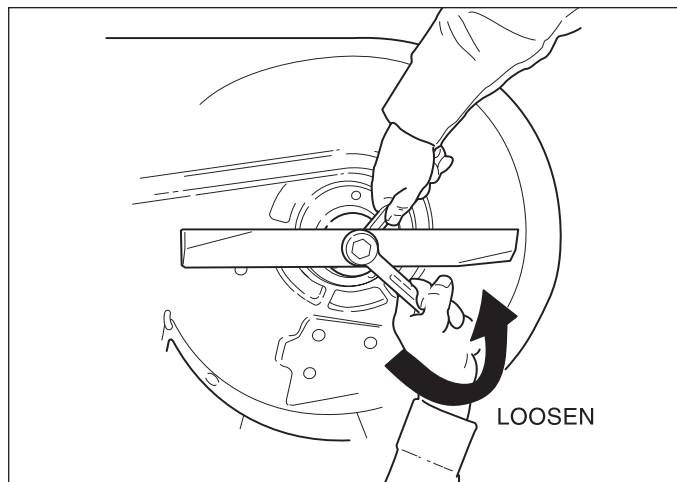

Figure 18. Removing the Blade
2. To remove blade for sharpening, use a 1" wrench on the flats of the spindle shaft while removing the blade mounting bolt with a 15/16" wrench (Figure 18).